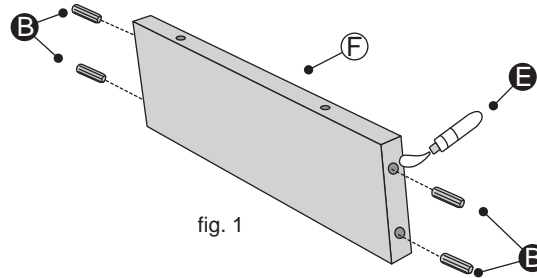

fig. 1
1. Place a small amount of Glue **E** into the dowel holes. Insert Dowels **B** into the Base Side Panels **F**. See fig. 1.